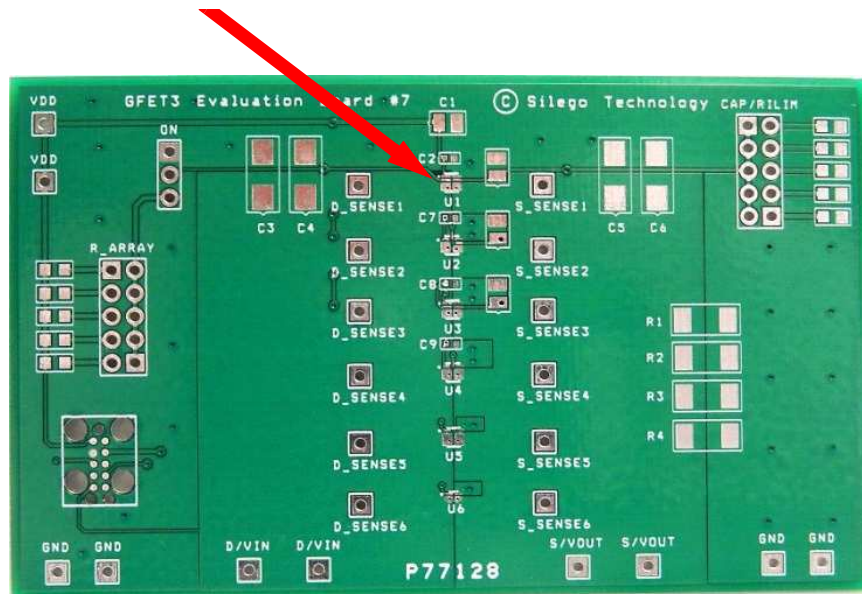

Figure 1. SLG59M307V Evaluation Board.
2. Since the D and S pins dissipate most of the heat generated during high-load current operation, it is highly recommended to make power traces as short, direct, and wide as possible. A good practice is to make power traces with an absolute minimum widths of 15 mils (0.381 mm) per Ampere. A representative layout, shown in Figure 1, illustrates proper techniques for heat to transfer as efficiently as possible out of the device;
A GreenFET Evaluation Board for SLG59M307V is designed according to the statements above and is illustrated on Figure 1. Please note that evaluation board has D\_Sense and S\_Sense pads. They cannot carry high currents and dedicated only for RDSON evaluation.